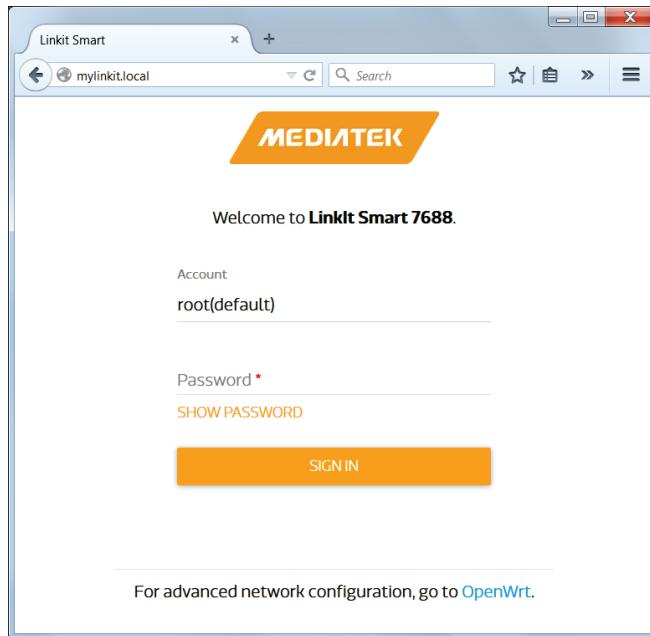

Figure 13 LinkIt Smart 7688 Web UI Sign In
- 3) Open a web browser and type <http://myLinkIt.local> in the URL box. The Web UI page opens as shown in Figure 13.